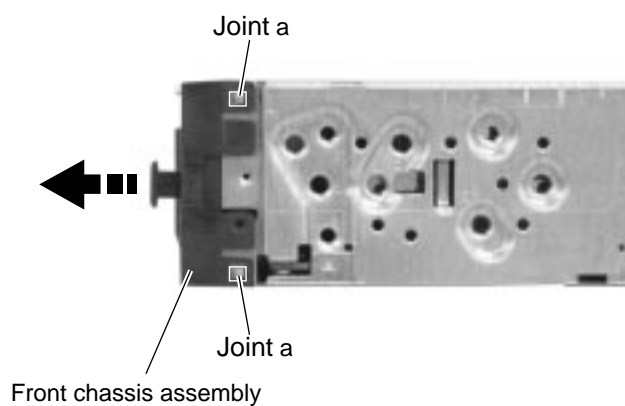

Fig.2
■ Removing the front chassis assembly (See Fig.2 , 3)
2. To release joint **a**, turn and detach the reinforce bracket from the side bracket assembly as shown in Fig.2